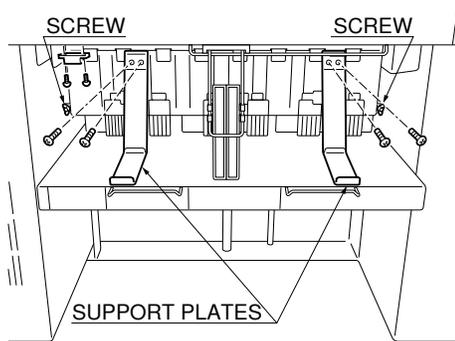

Figure D-9
14. Install the two support plates. (Figure D-9)